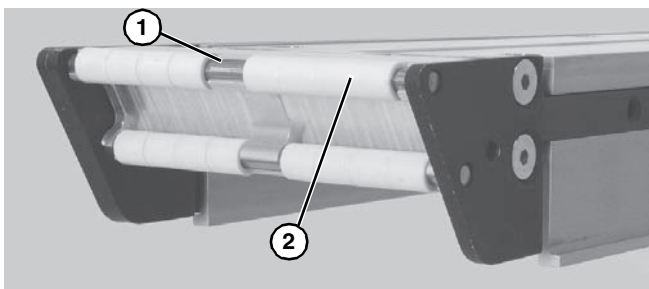

Figure 43
4. Slide bearing rods (**Figure 43, item 1**) out side of conveyor and replace bearings (**Figure 43, item 2**) as necessary.